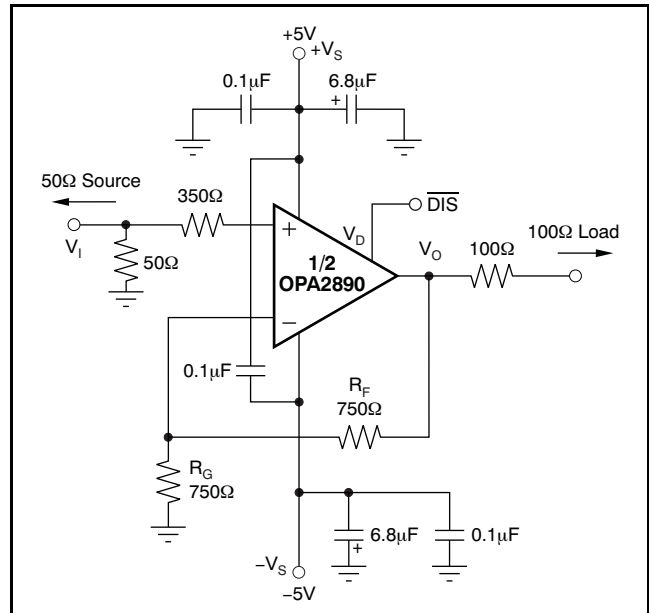
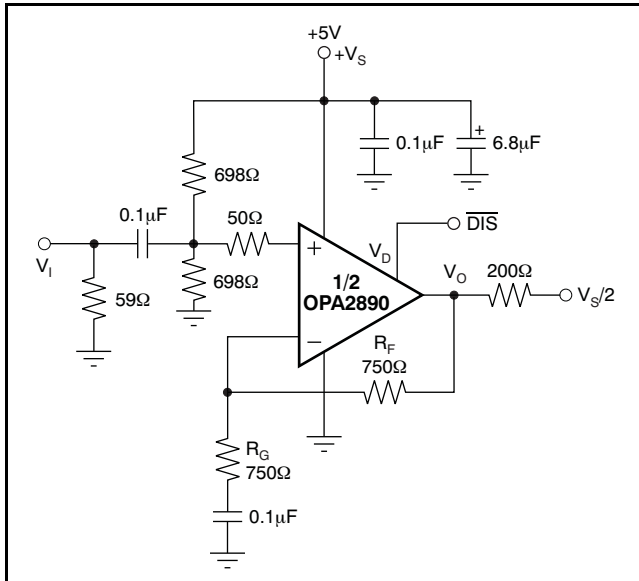
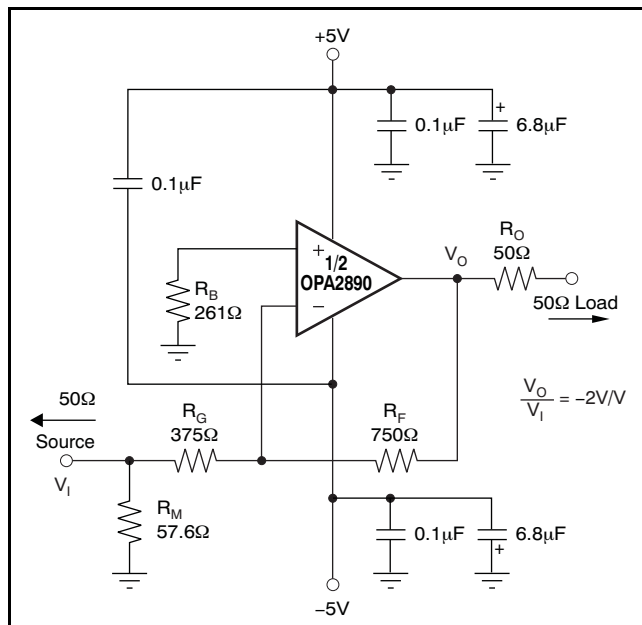

Figure 49. DC-Coupled, G = +2V/V, Bipolar Supply, Specification and Test Circuit
Figure 50. DC-Coupled, $G = +2V/V$, Single-Supply, Specification and Test Circuit
Figure 59. Gain of $-2V/V$ Example Circuit
At $T_A = +25^\circ C$, $G = +2V/V$, $R_F = 750\Omega$, and $R_L = 200\Omega$, unless otherwise noted. See Figure 49.
At $T_A = +25^\circ\text{C}$, $G = +2V/V$, $R_F = 750\Omega$, and $R_L = 200\Omega$, unless otherwise noted. See Figure 49.
Figure 49 shows the DC-coupled, gain of +2V/V, dual power-supply circuit configuration used as the basis of the ±5V Electrical Characteristics and Typical Characteristics. This illustration is for one channel; the other channel is connected similarly. For test purposes, the input impedance is set to 50Ω with a resistor to ground and the output impedance is set to 200Ω. Voltage swings reported in the Electrical Characteristics are taken directly at the input and output pins, while output powers (dBm) are at the matched 50Ω load. For the circuit of Figure 49, the total effective load is 200Ω || 1.5kΩ. The disable control line (MSOP-10 package only) is typically left open for normal amplifier operation. Two optional components are included in Figure 49. First, an additional resistor (350Ω) is included in series with the noninverting input. Combined with the 25Ω dc source resistance looking back towards the signal generator, this resistor gives an input bias current cancelling resistance that matches the 750Ω source resistance seen at the inverting input (see the DC Accuracy and Offset Control section). In addition to the usual power-supply decoupling capacitors to ground, a 0.1μF capacitor is also included between the two power-supply pins. In practical printed circuit board (PCB) layouts, this optional capacitor typically improves the 2nd-harmonic distortion performance by 3dB to 6dB.
Figure 50 illustrates the ac-coupled, gain of +2V/V, single-supply circuit configuration used as the basis of the +5V Electrical Characteristics and Typical Characteristics. Though not a rail-to-rail design, the OPA2890 requires minimal input and output voltage headroom compared to other very wideband voltage-feedback op amps. It delivers a 3V_{PP} output swing on a single +5V supply with greater than 80MHz bandwidth. The key requirement of broadband single-supply operation is to maintain input and output signal swings within the usable voltage ranges at both the input and the output. The circuit of Figure 50 establishes an input midpoint bias using a simple resistive divider from the +5V supply (two 698Ω resistors). Separate bias networks would be required at each input. The input signal is then ac-coupled into the midpoint voltage bias. The input voltage can swing to within 1.5V of either supply pin, giving a 2V_{PP} input signal range centered between the supply pins. The input impedance matching resistor (59Ω) used for testing is adjusted to give a 50Ω input load when the parallel combination of the biasing divider network is included.
A good rule of thumb is to target the parallel combination of R_F and R_G (see Figure 49) to be less than approximately 400Ω. The combined impedance $R_F \parallel R_G$ interacts with the inverting input capacitance, placing an additional pole in the feedback network and thus, a zero in the forward response. Assuming a 2pF total parasitic on the inverting node, holding $R_F \parallel R_G < 400\Omega$ keeps this pole above 160MHz. By itself, this constraint implies that the feedback resistor R_F can increase to several kΩ at high gains. This increase in resistor size is acceptable as long as the pole formed by R_F and any parasitic capacitance appearing in parallel is kept out of the frequency range of interest.
Voltage-feedback op amps exhibit decreasing closed-loop bandwidth as the signal gain increases. In theory, this relationship is described by the Gain Bandwidth Product (GBP) shown in the Electrical Characteristics. Ideally, dividing GBP by the noninverting signal gain (also called the Noise Gain, or NG) predicts the closed-loop bandwidth. In practice, this principle only holds true when the phase margin approaches 90°, as it does in high gain configurations. At low gains (increased feedback factors), most amplifiers exhibit a more complex response with lower phase margin. The OPA2890 is compensated to give a slightly peaked response in a noninverting gain of 2V/V (see Figure 49). This compensation results in a typical gain of +2V/V bandwidth of 100MHz, far exceeding that predicted by dividing the 60MHz GBP by 2. Increasing the gain causes the phase margin to approach 90° and the
The frequency response in a gain of +2V/V may be modified to achieve exceptional flatness simply by increasing the noise gain to 2.5V/V. One way to modify the response without affecting the +2V/V signal gain, is to add an 1.5kΩ resistor across the two inputs, as illustrated in the circuit of Figure 49. A similar technique may be used to reduce peaking in unity-gain (voltage follower) applications. For example, by using a 750Ω feedback resistor along with a 750Ω resistor across the two op amp inputs, the voltage follower response is similar to the gain of +2V/V response of Figure 50. Reducing the value of the resistor across the op amp inputs further limits the frequency response due to increased noise gain.
The OPA2890 is a general-purpose, wideband, voltage-feedback op amp; therefore, all of the familiar op amp application circuits are available to the designer. Inverting operation is one of the more common requirements and offers several performance benefits. See Figure 59 for a typical inverting configuration where the I/O impedances and signal gain from Figure 49 are retained in an inverting circuit configuration.
The second major consideration, touched on in the previous paragraph, is that the signal source impedance becomes part of the noise gain equation and influences the bandwidth. For the example in Figure 59, the R_M value combined in parallel with the external 50Ω source impedance yields an effective driving impedance of $50\Omega \parallel 57.6\Omega = 26.7\Omega$. This impedance is added in series with R_G for calculating the noise gain (NG). The resultant NG is 2.86V/V for Figure 59, as opposed to only 2V/V if R_M could be eliminated as discussed above. Therefore, the bandwidth is slightly lower for the gain of $-2V/V$ circuit of Figure 59 than for the gain of $+2V/V$ circuit of Figure 49.
signal reaches very high frequency or power levels, the 2nd harmonic dominates the distortion with a negligible 3rd harmonic component. Focusing then on the 2nd harmonic, increasing the load impedance improves distortion directly. Remember that the total load includes the feedback network; in the noninverting configuration (see Figure 49), this value is the sum of $R_F + R_G$, while in the inverting configuration it is only R_F . Also, providing an additional supply-decoupling capacitor (0.1μF) between the supply pins (for bipolar operation) improves the 2nd-order distortion slightly (3dB to 6dB). Operating differentially also lowers 2nd-harmonic distortion terms (see the plot on the front page).
Evaluating these two equations for the OPA2890 circuit and component values (see Figure 49) gives a total output spot noise voltage of 17.5nV/√Hz and a total equivalent input spot noise voltage of 8.7nV/√Hz. This result includes the noise added by the bias current cancellation resistor (350Ω) on the noninverting input. This total input-referred spot noise voltage is only slightly higher than the 8nV/√Hz specification for the op amp voltage noise alone. This result is the case as long as the impedances appearing at each op amp input are limited to the previously recommend maximum value of 400Ω. Keeping both ($R_F \parallel R_G$) and the noninverting input source impedance less than 400Ω satisfies both noise and frequency response flatness considerations. Because the resistor-induced noise is relatively negligible, additional capacitive decoupling across the bias current cancellation resistor (R_B) for the inverting op amp configuration of Figure 59 is not required.
The balanced input stage of a wideband voltage-feedback op amp allows good output dc accuracy in a wide variety of applications. The power-supply current trim for the OPA2890 gives even tighter control than comparable amplifiers. Although the high-speed input stage does require relatively high input bias current (typically 5µA out of each input terminal), the close matching between them may be used to reduce the output dc error caused by this current. The total output offset voltage may be considerably reduced by matching the dc source resistances appearing at the two inputs. This matching reduces the output dc error resulting from the input bias currents to the offset current times the feedback resistor. Evaluating the configuration of Figure 49, and using worst-case +25°C input offset voltage and current specifications, gives a worst-case output offset voltage equal to:
As a worst-case example, compute the maximum T_J using an OPA2890ID (SO-8 package) in the circuit of Figure 49 operating at the maximum specified ambient temperature of +85°C and with both outputs driving a grounded 20 Ω load to +2.5V.